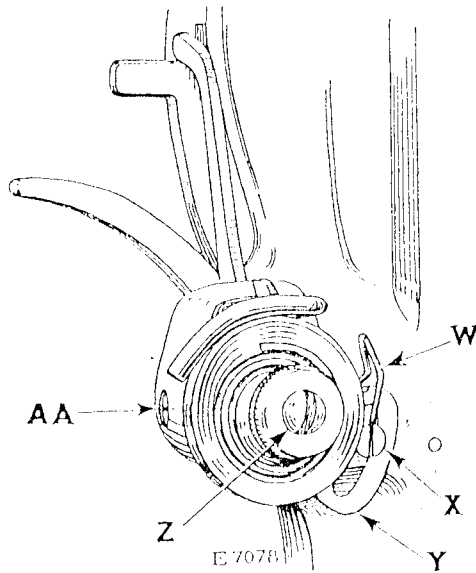

FIG. 22. ADJUSTMENT OF THREAD TAKE-UP SPRING
The thread take-up spring (W, Fig. 22) should be set so that when the eye of the needle reaches the goods on the downward
stroke of the needle bar, the spring will be through acting and will rest against the thread take-up spring regulator plate (Y, Fig. 22). If the thread take-up spring is not correctly set, loosen the set screw (X, Fig. 22) which holds the thread take-up spring regulator plate (Y) in position and lower the plate (Y) for more movement of the spring, or raise it for less movement. When the spring is correctly set, securely tighten the set screw (X).
The tension on the thread take-up spring (W) is regulated by loosening the set screw (AA, Fig. 22) at the side of the face plate and turning the tension stud (Z, Fig. 22) over toward you to increase the tension, or over from you to decrease the tension. When the desired tension is obtained, securely tighten the set screw (AA).